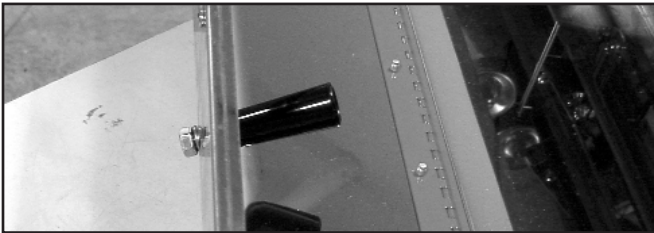

Figure 1. Remove Handle
**Assembly Instruction:** Open cover and remove cover handle. Re-install on outside of cover See Figures 1 & 2. Remove Bend-Guide™ from stored position before operating hot boxes.